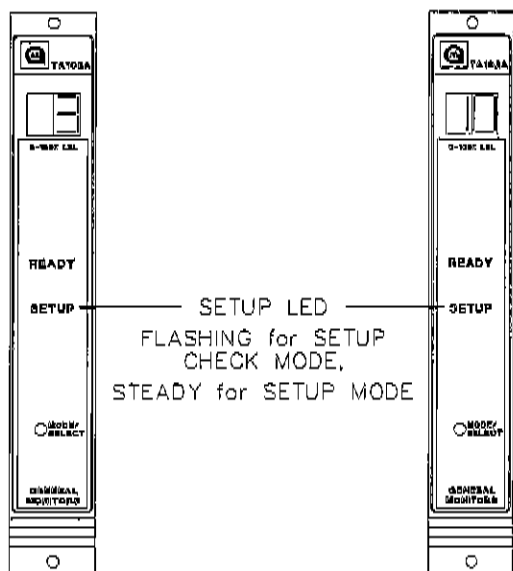

Figure 24
- Following **ct**, the ramp up time (**3** or **10**) during the card test (figure 24) will be displayed. **3** is the factory default for this selection.